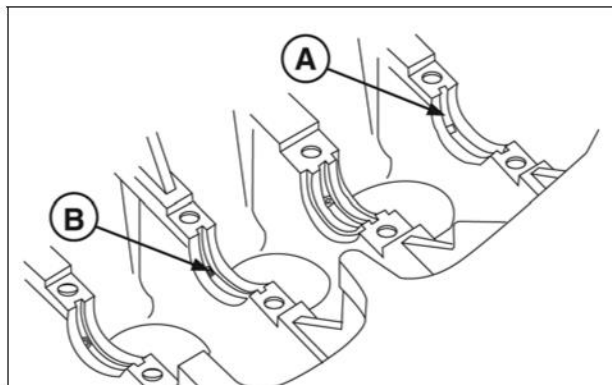

Figure 1
NOTE: Upper bearing has an oil groove (A, Figure 1) and oil holes (B).